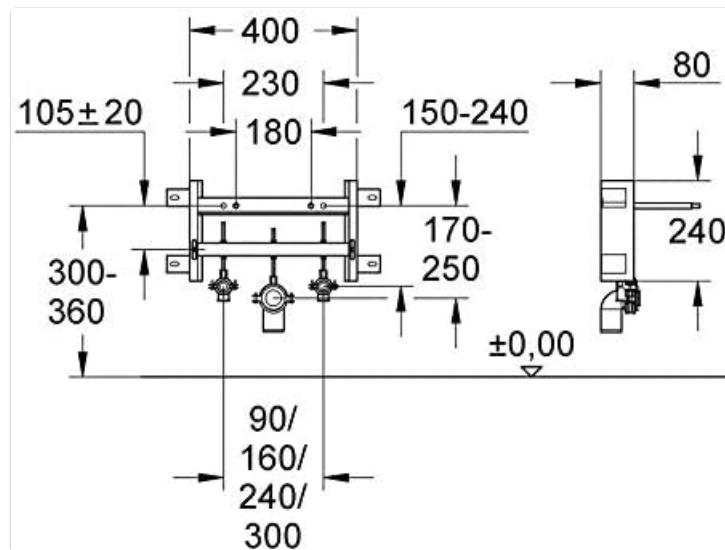

Figure 3: Technical drawing illustrating installation dimensions and variable distances for the Uniset Frame.
1. Mark the desired installation height and position on the wall, referencing Figure 3 for standard bidet heights.